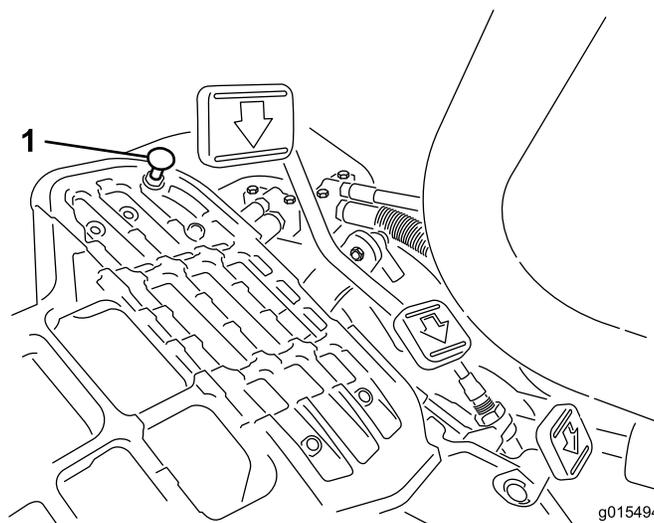

Figure 54
Press down on the traction pedal. If the pedal contacts the stop (Figure 54) before tension is felt on the cable, an adjustment is required:
1. Loosen flangehead locknuts securing the pedal stop to the floor plate (Figure 54).